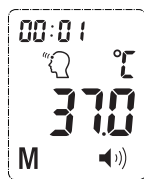

Figure 4
2. After self-checking, the last measured temperature appears on the display screen with beeps, so you can start a new measurement. (See Figure 4)